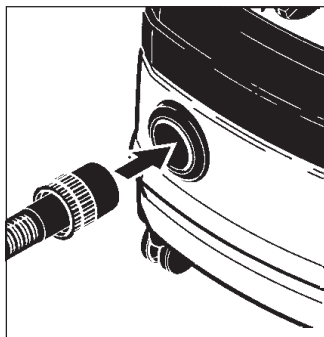

Figure 4
4. Connect the suction hose. The "Wap Multifit" enables any Clarke suction hoses (27, 32, 36, 50 mm diameter) to be connected to the machine (Figure 4).